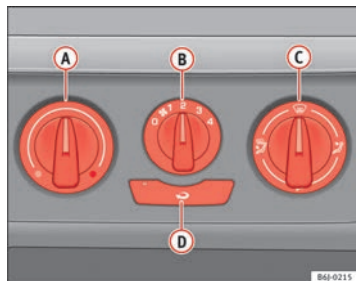

Fig. 91 Heating controls on the dash panel
- Turn the temperature selector **A** ⇒ Fig. 91 anticlockwise.
- Turn the temperature selector **A** ⇒ Fig. 91 clockwise to select the desired temperature.
- Turn the temperature selector **A** ⇒ Fig. 91 clockwise to reach the maximum temperature.
- Turn the temperature selector **A** ⇒ Fig. 91 to the heating area. ▶